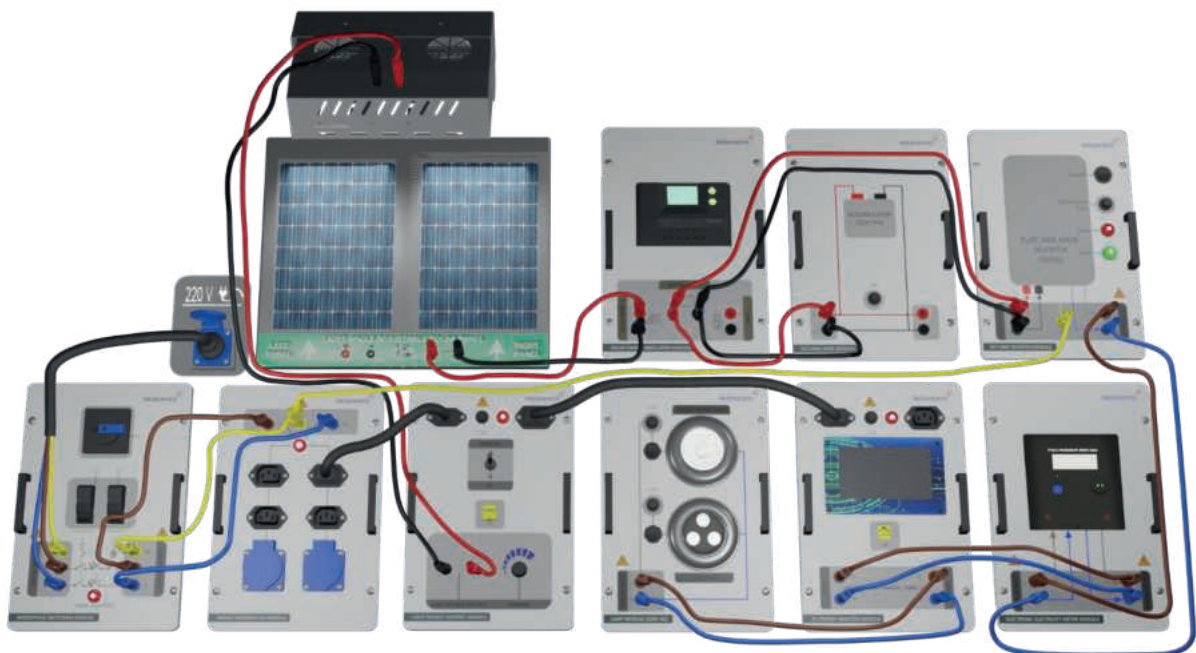

Figure-70. Installation Image of Measurement of Energy Received from Off-Grid Inverter
1. Set up the connection as specified in Figure-70. Maintain a constant level of light in the laboratory by creating an average lighting scenario. Be aware that any changes to the positions of lamps or curtains will affect the experimental outcomes.